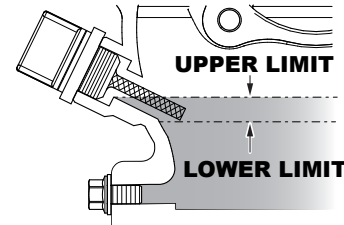

Figure 12. Engine Oil Dipstick (Oil Level)
4. If the oil level is low (Figure 12), fill to the edge of the oil filler hole with the recommended oil type (Table 7). Maximum oil capacity is 2.33 pints (1.09 liters).